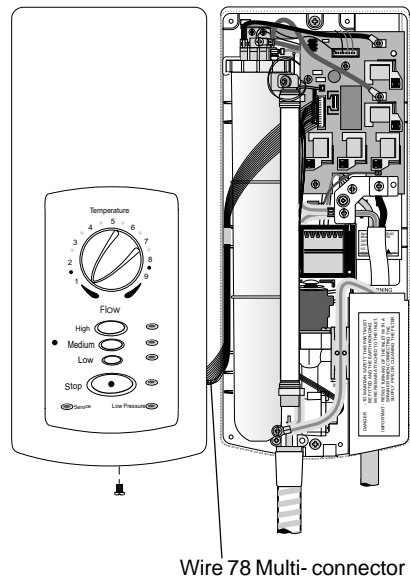

Figure 4
- 2.1.2. **Caution!** The cover is connected to the case by wire 78 Multi-connector, which should not be strained when carrying out the next instruction (Refer to Figure 4).